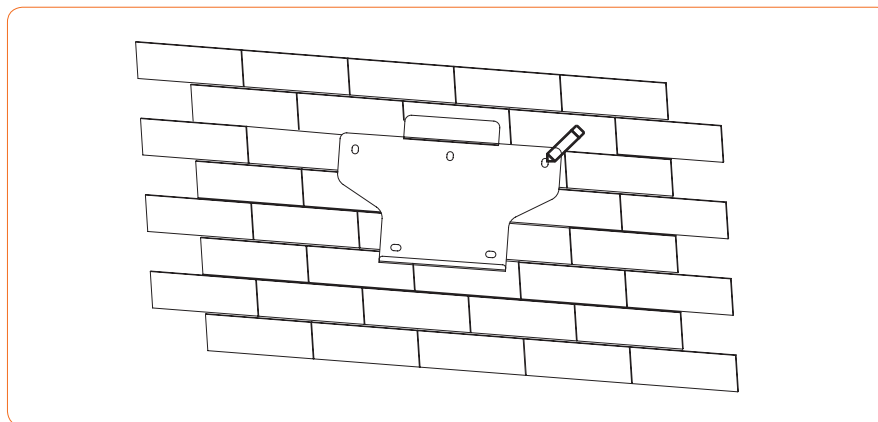

Figure 4-9 Marking hole position using installation bracket
① Use the wall bracket as the template to mark the position of 5 holes on the wall. See Figure 4-9 for details: